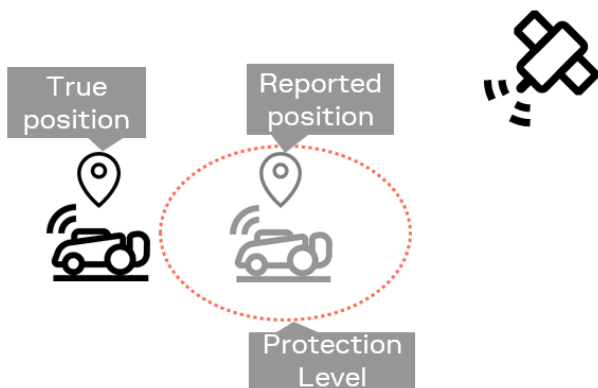

Figure 18: Misleading information
The protection level bounds the true position error with a target misleading information risk (TMIR), for example 5[%MI/epoch] (read: 5% probability of having an MI per epoch). The target misleading information risk describes the probability per epoch of having misleading information (MI), meaning that it is not possible to bound the true position error because it is larger than the protection level (see Figure 18).